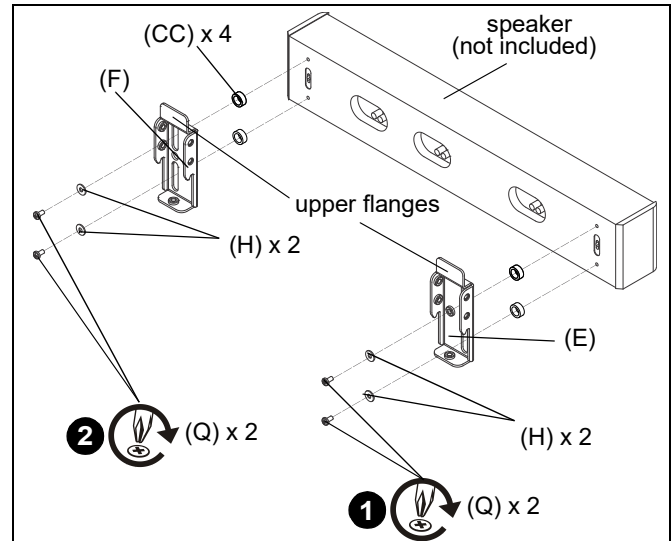

Figure 13
- Attach left speaker interface (E) to back of speaker (left side) using two 1/4-20 x 1/2" Phillips pan head screws (Q), two large washers (H) and (optional) two dampening rubber washers (CC). (See Figure 13)
NOTE: Ensure that upper flange of interface brackets are at top of speaker. (See Figure 13)
- Repeat Steps 1 with right speaker interface (F). (See Figure 13)